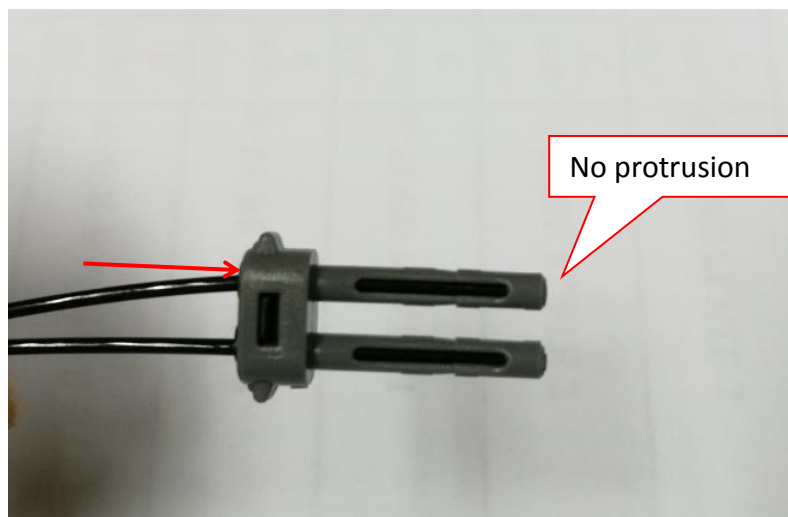

Figure 36 PIP Sensor Cable
9. Gently slot PIP Sensor End Cable into adapter as shown in Figure 36